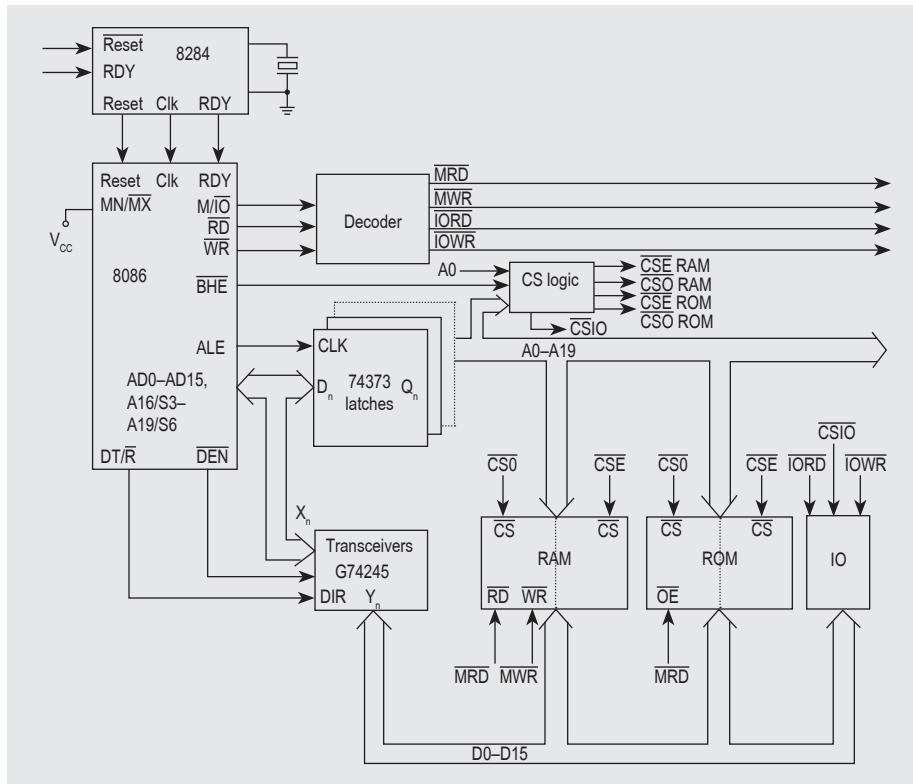

Fig. 18.1 Minimum mode operation of an 8086-based system
The 8086 is configured in minimum mode when its MN/\overline{MX} pin is connected to +5 V. A typical minimum mode configuration of the 8086 is shown in Fig. 18.1. The figure illustrates the 8284 IC generating the clock, Ready and Reset signals for the 8086. The decoder is used to generate the four control signals \overline{MEMR} , \overline{MEMW} , \overline{IOR} , and \overline{IOW} using the M/\overline{IO} , \overline{RD} , and \overline{WR} signals of the 8086. The chip select (CS) logic is used to generate the Chip Select signals for the odd and even memory banks of the RAM and ROM chips and the I/O devices using \overline{BHE} , A_0 , and a few higher-order address lines of the 8086. The \overline{CSE} and the \overline{CSO} signals represent the Chip Select signal for the even bank and odd bank of the memory, respectively. \overline{CSIO} represents the Chip Select signal for the input/output (I/O) devices.